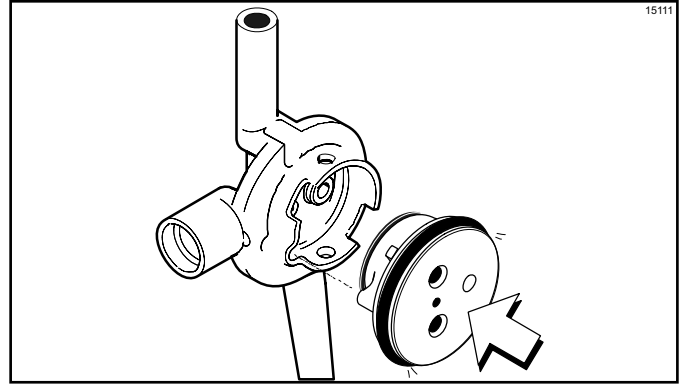

Figure 6-30
7. Insert the valve body cap into the hole in the mix inlet adapter. (See Figure 6-30.)